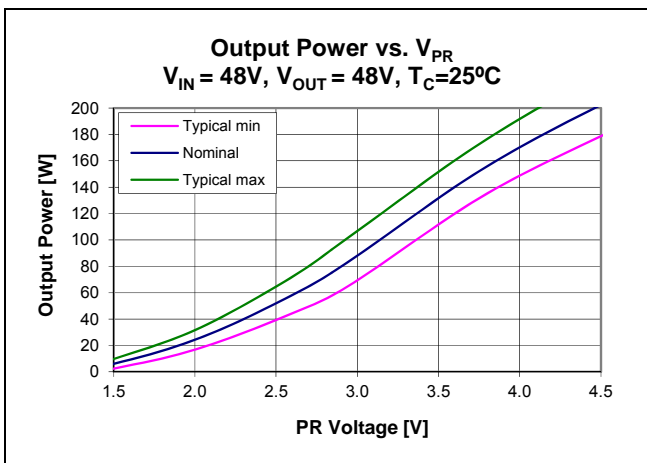

Figure 21 – Output Power vs. V_{PR} ; $V_{IN} = 48V$, $V_{OUT} = 48V$, $T_C = 25^\circ C$, $T_{CASE} = 25^\circ C$
Control node (PR) is the input to the control node which determines the powertrain timing and ultimately the module output power (Figure 21). An internal 0.5mA current sink is always active. The bi-directional buffer between PR and the control node has two states. In normal operation, PR will be above the 0.79V switching threshold, and will drive the control node through the buffer. An internal 7.4V clamp determines the maximum output power that can be requested of the modulator.